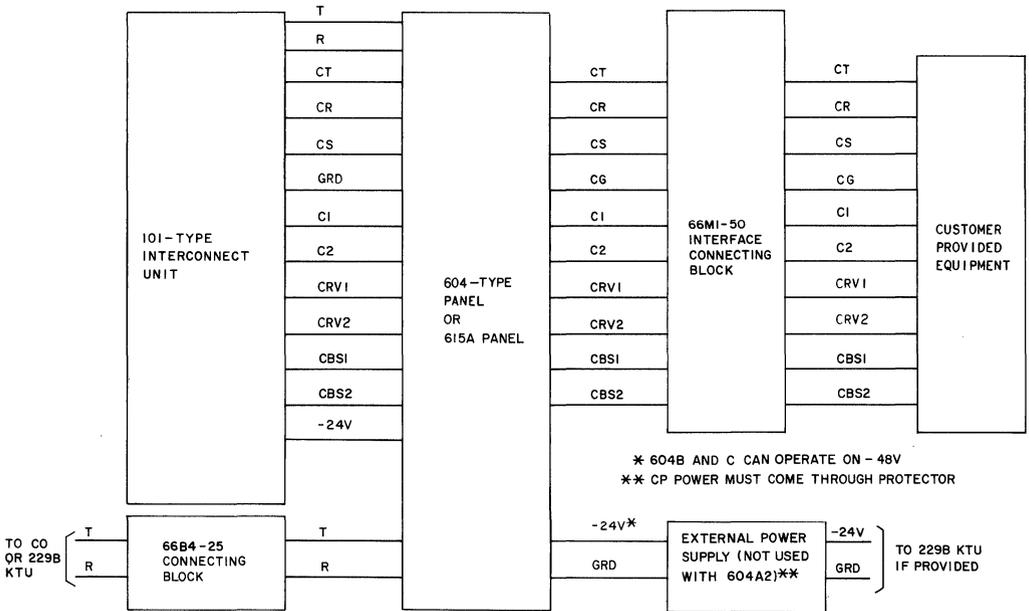

Fig. 12—Block Diagram—PCA CDH Using 604-Type or 615A Panel
### 604-Type Panel (Fig. 12 and Tables C, D, E, F, I, K and L)
#### **615A Panel (Fig. 12 and Tables G, H, I, and M)**
**3.24** When voltage protection is required, the KS-20944 protector must be mounted externally and wired to the power supply terminals of the 615A or 604-type panel (Fig. 12). Refer to Section 463-300-109 for connections to multiple installations.